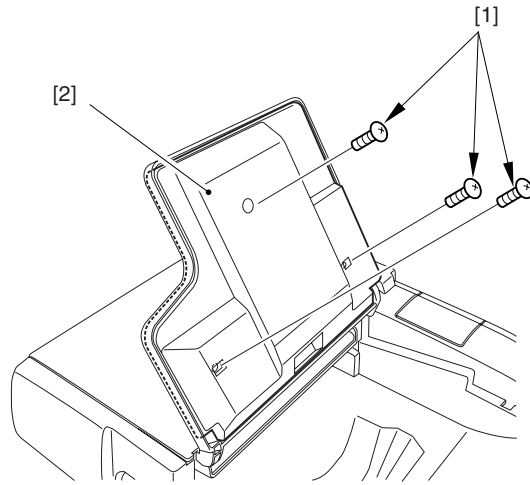

Figure 3-12
- 5) When done, mount the cover (Figure 3-12 [2]).